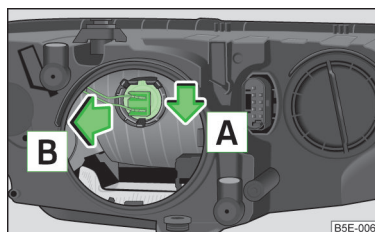

Fig. 222
- Turn the connector with the bulb in downwards in the direction of the arrow » Fig. 222 and remove it in the direction of the arrow .